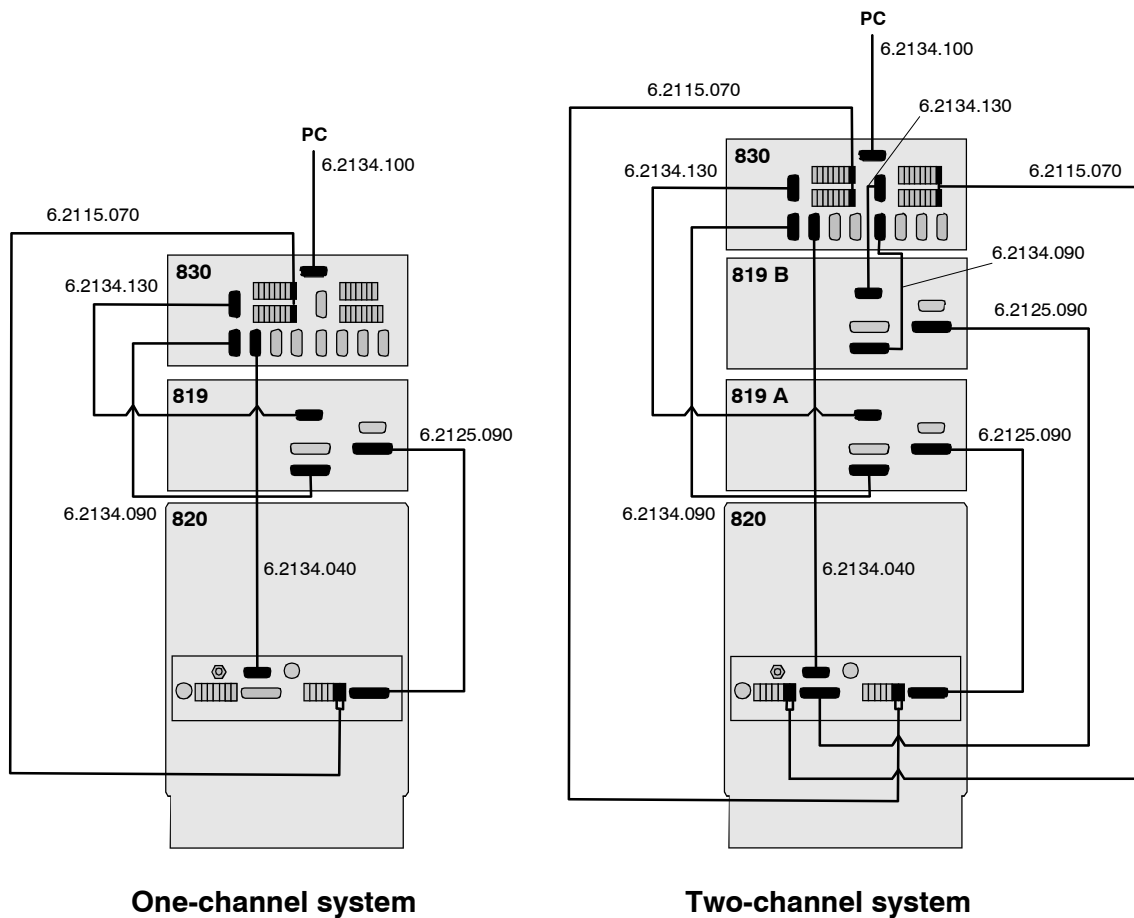
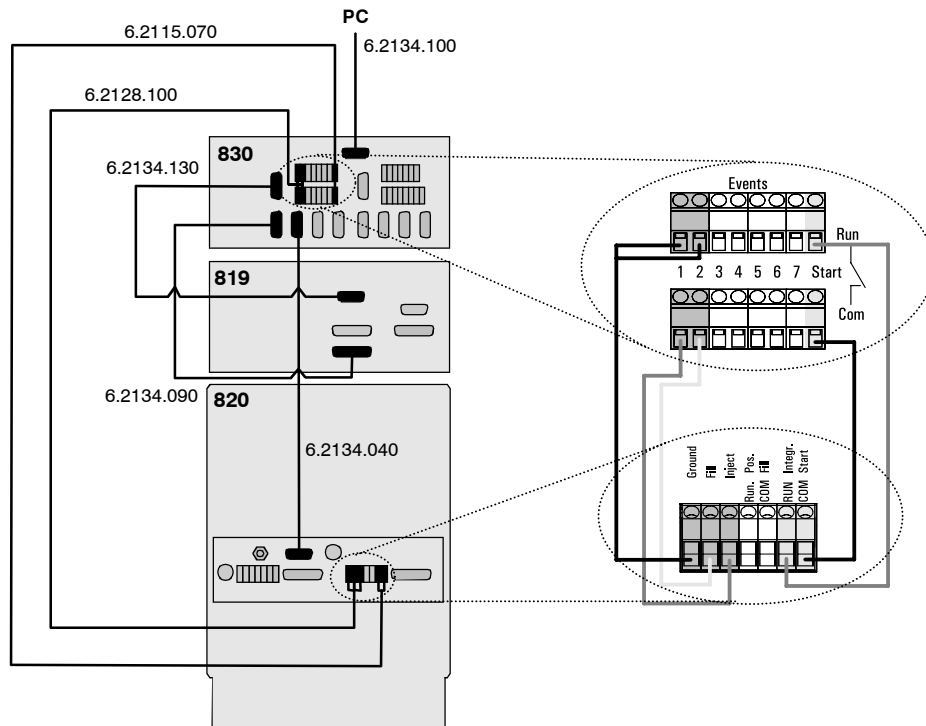
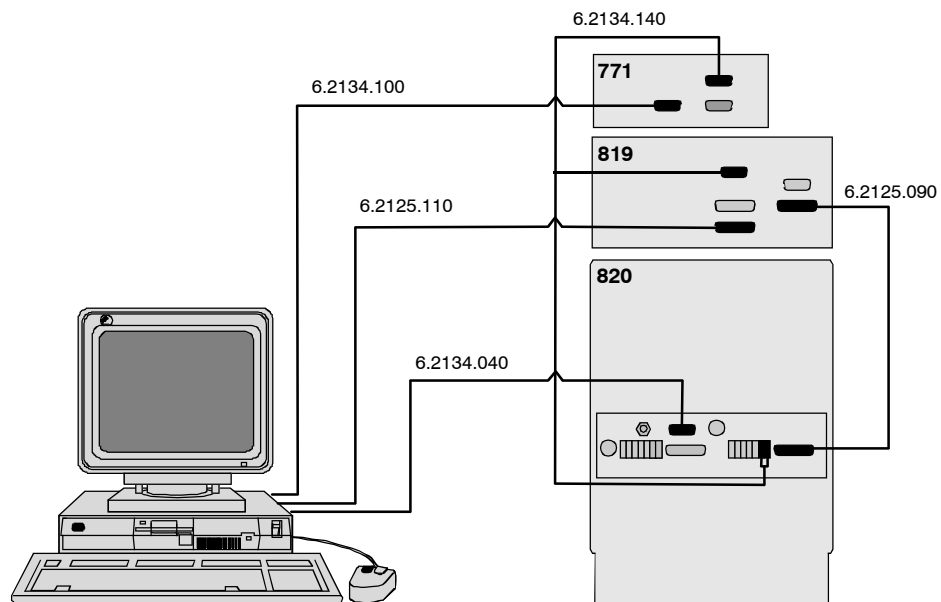

Fig. 12: Connection of 820 via 819 to 830
Fig. 13: Connection of 819 and 820 to 830
Fig. 14: Connection of 819 and 820 to a PC
- Use 6.2125.090 Cable to connect Connection **10** “IC Separation Center” of the **819 IC Detector** to Connection **30** “IC Detector” of the **820 IC Separation Center** (see Fig. 12).
- Use a further 6.2125.090 Cable to connect Connection **10** “IC Separation Center” of the **second 819 IC Detector** to Connection **27** “IC Detector” of the **820 IC Separation Center** (see Fig. 12).
- Use 6.2134.090 Cable (830 accessory) to connect Connection **9** “RS 232” of the **819 IC Detector** to a free RS 232 interface of **System 1** of the **830 IC Interface** (see Fig. 12).
- Use 6.2134.130 Cable to connect Connection **5** “Output” of the **819 IC Detector** to analog connection “Channels 1/2” of **System 1** of the **830 IC Interface** (see Fig. 12).
- Use a further 6.2134.090 Cable (830 accessory) to connect Connection **9** “RS 232” of the **second 819 IC Detector** to a free RS 232 interface of **System 2** of the **830 IC Interface** (see Fig. 12).
- Use 6.2134.130 Cable to connect Connection **5** “Output” of the **819 IC Detector** to analog connection “Channels 3/4” of **System 2** of the **830 IC Interface** (see Fig. 12).
- Use 6.2115.070 Cable to connect the positions **Integr.** and **Start** of terminal block **31** of the **820 IC Separation Center** to the event line **Start** of **System 1** of the **830 IC Interface** (see Fig. 12).
- Use a further 6.2115.070 cable to connect the positions **Integr.** and **Start** of terminal block **26** of the **820 IC Separation Centers** to the event line **Start** of **System 2** of the **830 IC Interface** (see Fig. 12).
- Use 6.2134.040 Cable to connect RS 232 interface **22** of the **820 IC Separation Center** to a free RS 232 interface of the **830 IC Interface** (see Fig. 12).
- Use 6.2134.090 Cable (830 accessory) to connect Connection **9** "RS 232" of the **819 IC Detector** to a free RS 232 interface of **System 1** of the **830 IC Interface** (see Fig. 13).
- Use 6.2134.130 Cable to connect Connection **5** "Output" of the **819 IC Detector** to the analog connection "Channels 1/2" of **System 1** of the **830 IC Interface** (see Fig. 13).
- Use 6.2128.100 Cable to connect positions **Ground**, **Fill** and **Inject** of terminal block **31** of the **820 IC Separation Center** to two free event lines of **System 1** of the **830 IC Interface** (see *Fig. 13*).
- Use 6.2115.070 Cable to connect positions **Integr.** and **Start** of terminal block **31** of the **820 IC Separation Center** to the event line **Start** of **System 1** of the **830 IC Interface** (see *Fig. 13*).
- Use 6.2134.040 Cable to connect RS 232 interface **22** of the **820 IC Separation Center** to a free RS 232 interface of the **830 IC Interface** (see *Fig. 13*).
- Use 6.2125.090 Cable to connect Connection **10** "IC Separation Center" of the **819 IC Detector** to Connection **30** "IC Detector" of the **820 IC Separation Center** (see *Fig. 14*).
- Use 6.2125.110 Cable to connect Connection **9** “RS 232” of the **819 IC Detector** to a free RS 232 interface at the **PC** (see Fig. 14).
- Use 6.2134.140 Cable to connect Connection **5** “Output” of the **819 IC Detector** to Connection “Channel 1” of the **771 IC Compact Interface** (see Fig. 14). The cable end with the marking “Analog” is inserted into the detector.
- Attach the two cable ends “RUN” and “COM” of 6.2134.140 Cable to the positions **Integr.** and **Start** of terminal block **27** of the **820 IC Separation Center** (see Fig. 14).
- Use 6.2134.100 Cable to connect Connection “RS 232, PC” of the **771 IC Compact Interface** to a free RS 232 interface at the **PC** (see Fig. 14).
- Use 6.2134.040 Cable to connect RS 232 interface **22** of the **820 IC Separation Center** to a free RS 232 interface at the **PC** (see Fig. 14).
If an 820 IC Separation Center is included in a modular IC system via an 819 IC Detector then the power supply for the Separation Center is provided by the 6.2125.090 Cable (see *Fig. 12* and *Fig. 14*).
If the 820 IC Separation Center is controlled separately (see *Fig. 13*) then the optionally available 6.2152.000 Power Supply must be used and inserted in Connection **25** (see *Fig. 5*).
If the Separation Center is to be controlled via the time program of the detector (see *Fig. 12* and *Fig. 14*) then during installation the Separation Center must be installed appropriately as **820.02X0 to IC Detector** or **820.03X0 to IC Detector**. If the 820 IC Separation Center is to be controlled separately (see *Fig. 13*), then it must be installed as **820.0210 to Interface**, **820.0220 to Interface**, **820.0230 to Interface**, **820.0310 to Interface**, **820.0320 to Interface** or **820.0330 to Interface**.